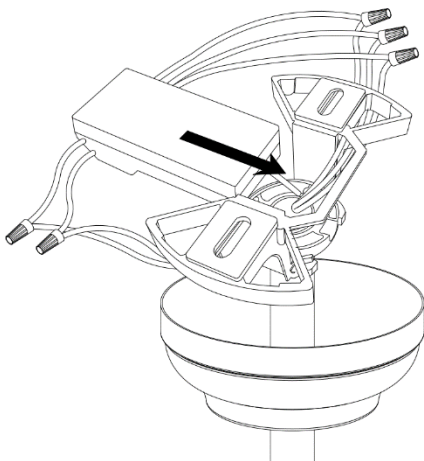

Fig. 16
9. Carefully insert the Remote Receiver above the hanger ball in the remainder spacing in the mounting bracket. Take care not to damage or loosen any of the wiring. (Fig. 16)